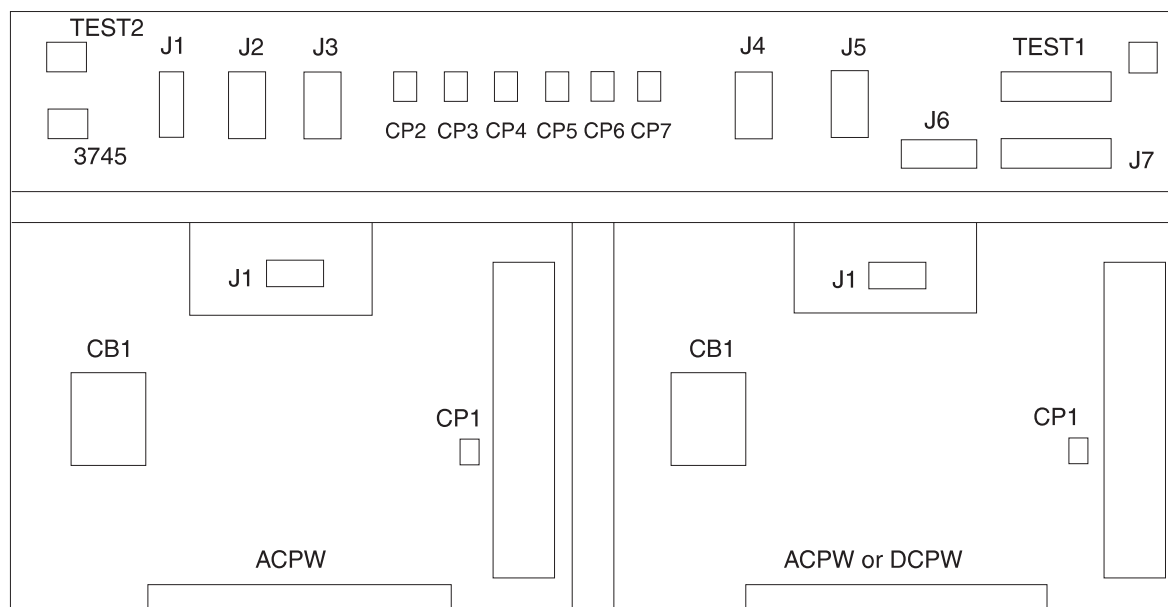

Figure 2-2. DCDP and Power Boxes
– Check the position of CB1 on the basic ACPW box. See Figure 2-2 on page 2-5.
– Check CP1 on the AC box. See Figure 2-2 on page 2-5.
– Check CP2 and CP3 on the DCDP. See Figure 2-2 on page 2-5.
- Check CP4, CP5, CP6, and CP7 on the DCDP. See Figure 2-2.
- Measure the 'dc sense 1' -48v at the Test 1 connector pin 5 as shown in Figure 2-2. Refer to YZ page 234 for test 1 pin assignment.